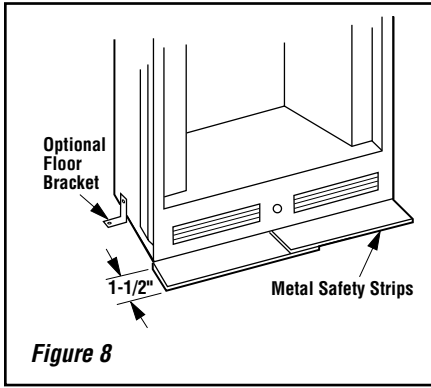

Figure 8
The safety strips should extend from front of the fireplace at least 1-1/2" and should extend to be at least flush with the sides. In the event a wooden support is used to elevate the fireplace above the floor, a "Z" type safety strip should be fabricated and used to protect the front surface of the wood support as well as the floor beneath the hearth extension (**Figures 8 and 9**). The safety strips should be tacked down to prevent possible movement.
**Note:** The use of floor brackets are optional. They are included (unbent) inside the Combustion Air Kit package, located inside the firebox. Refer to **Figure 8** for suggested bracket placement.